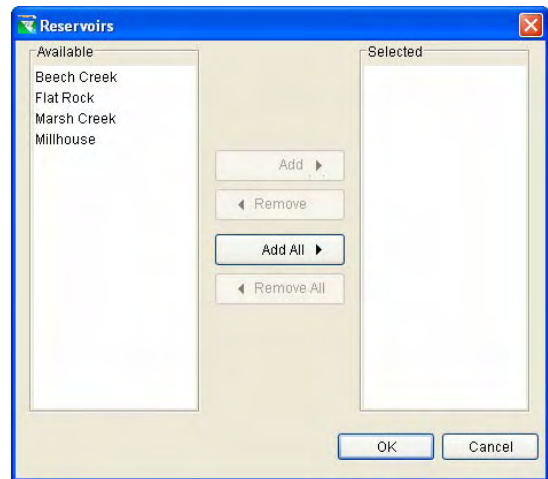

Figure 11.108 Storage Credit Option - Reservoir Selection Editor
4. In the **Available** list, click on the name of the reservoir(s) you want to use for flood control storage credit (Figure 11.108), then click **Add** to move it to the **Selected** list. Click **OK** to close the reservoir selection editor.